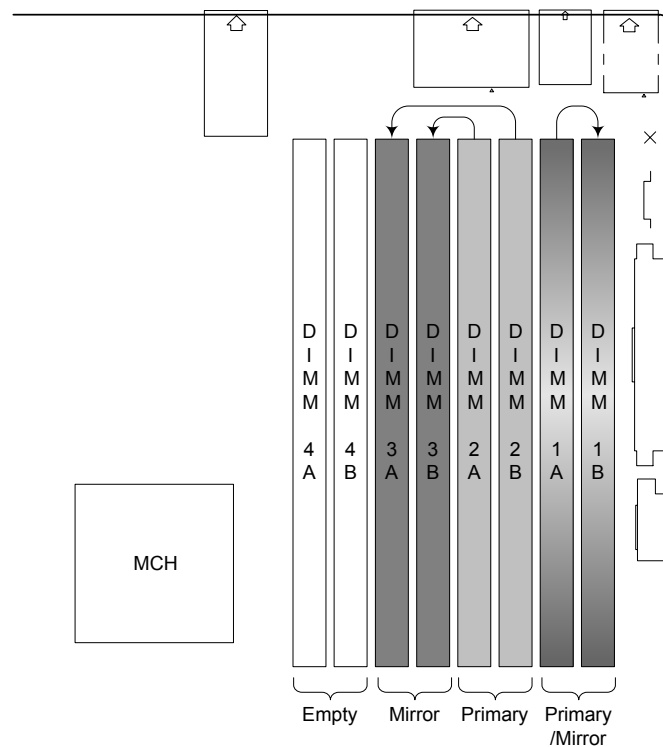

Figure 8. Six DIMM Memory Mirror Configuration
- A six-DIMM population uses identical devices within DIMM Bank 1, and between DIMM Banks 2 and 3. Referring to Figure 8, DIMMs labeled 3A, 3B, 2A, and 2B must be single-rank and identical; and those labeled 1A and 1B must be dual-ranked and identical. The first group does not have to be identical to those in the second group.